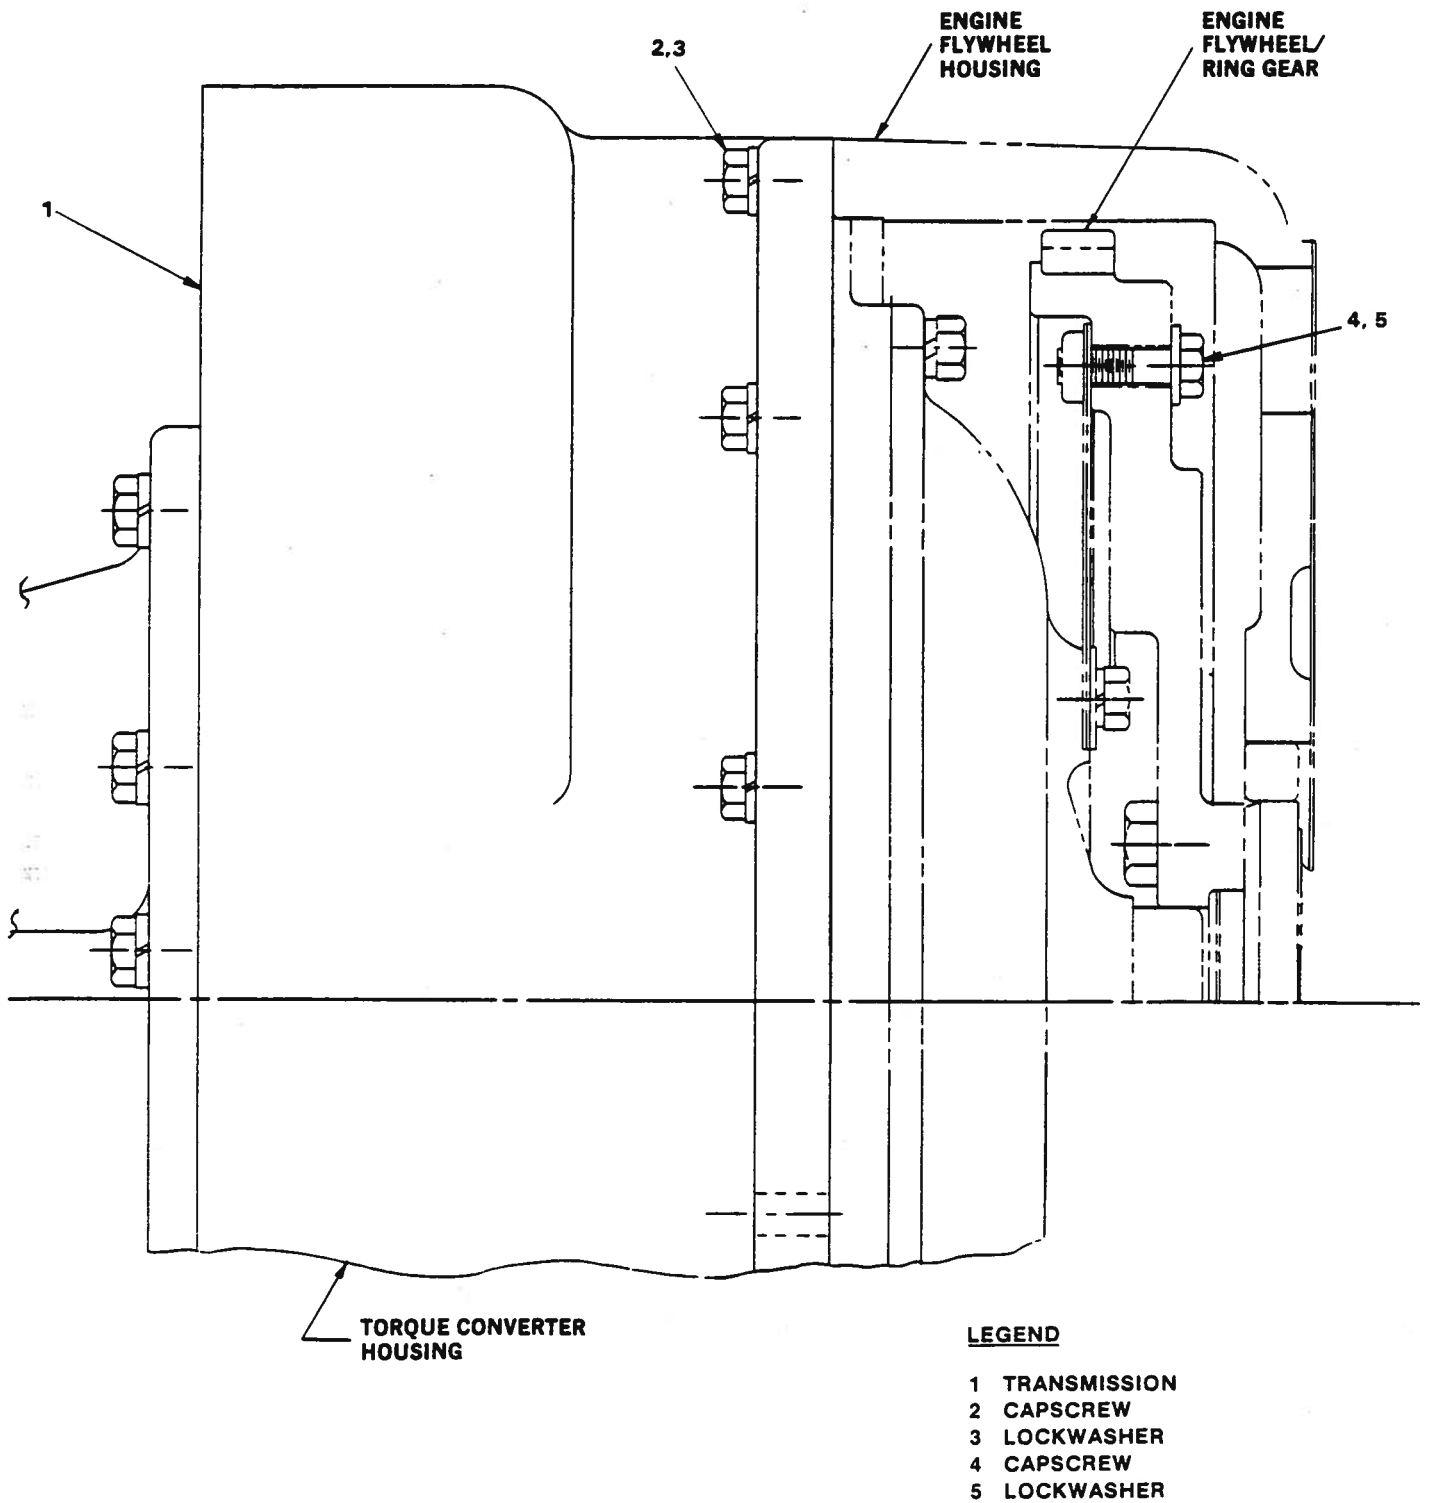

Figure 5-34. Transmission Installation
5-57. REMOVAL. (See figure 5-34.)
- c. Support transmission (1) with chain hoist.
- d. Remove capscrews (4, figure 5-34) and lockwashers (5).
- e. Remove capscrews (2) and lockwashers (3).
- g. Secure transmission (1) in overhaul fixture.